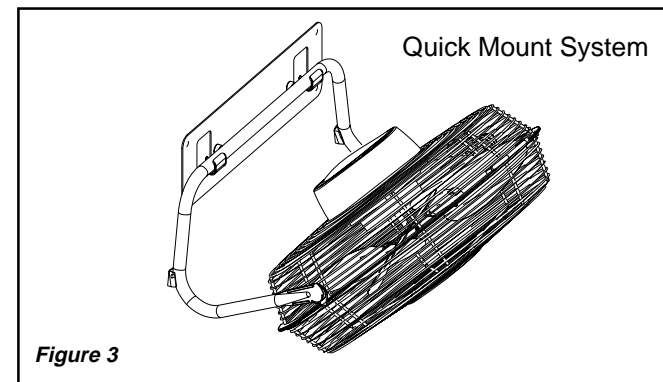

Figure 3
3. Slowly allow the stand to rotate downward so that rubber feet at front rest against the wall below the mounting bracket. (Figure 3)